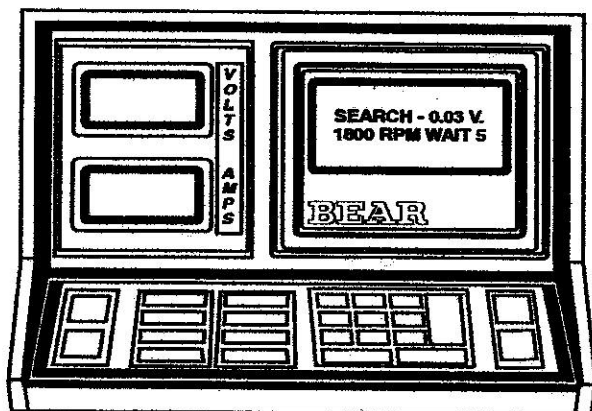

Figure 23
- C. After the load is released, there is an automatic cooldown period lasting as long as the load period. The display reads "WAIT" and counts down to zero (see Figure 23). At zero, the multi-meter display returns.